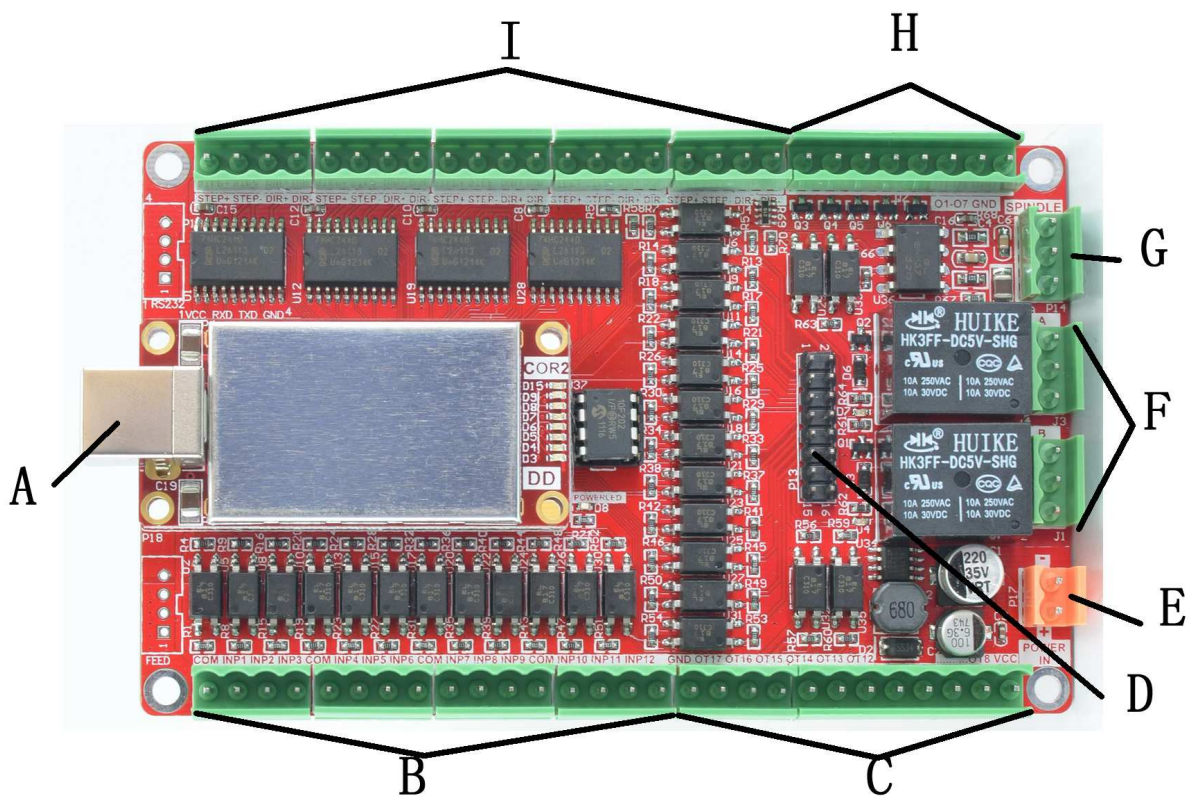
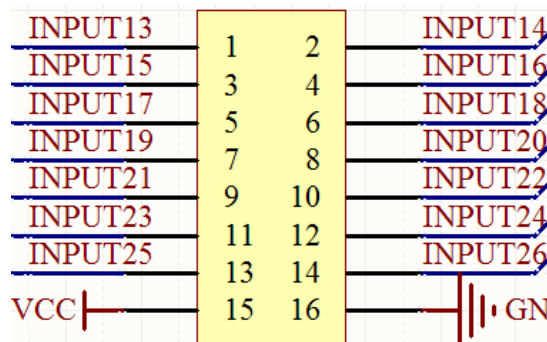

Figure2-1. Functional modules defined in Figure
Figure2-4. 5V General INPUT PORT IN13-IN26
D) 5V General INPUT PORT IN13-IN26, it is a 2.54mm double pin port. See as Figure 2-1 The first left Pin is Pin1, PIN1-PIN16 are set as Figure2-4.
E) The Yellow input terminals is power input within 12~36VDC. See as Figure2-1, the up terminal is Positive and the bottom terminal is Negative.
are CLOSE\COM\OPEN from up to down, see as Figure 2-1.
I) 5-axis stepper motor control signal output, defined as CK+\CK-\DIR+\DIR-. There are positive pulse, negative pulse, positive direction, negative direction. These port are common positive connection. Therefore, on the board of CK + and DIR + are linked together to 5V. So this board does not support the common negative connection. Wiring method refer to Figure 2-7. This card doesn't have EN signal, most drives on sale should not connected to the EN signal. It is defined as X \ Y \ Z \ A \ B channel from left to right, see as Figure 2-1.